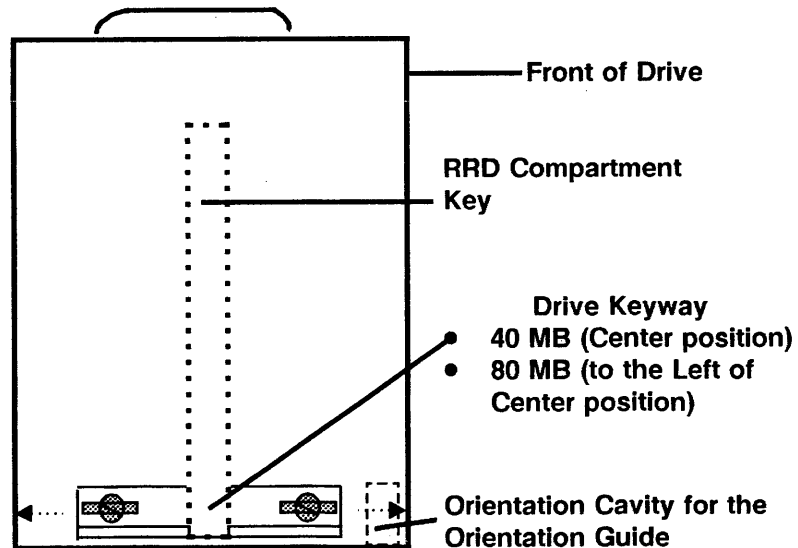

Figure 14. Keyway (Left Side of RRD)
1. Face the left side of the rigid disk. Ensure that the keyway corresponds to the size of the rigid disk drive (Figure 14). If the keyway corresponds to the size of the rigid disk drive, go to step 2. If the keyway does not correspond to the size of the rigid disk drive, perform the steps below: